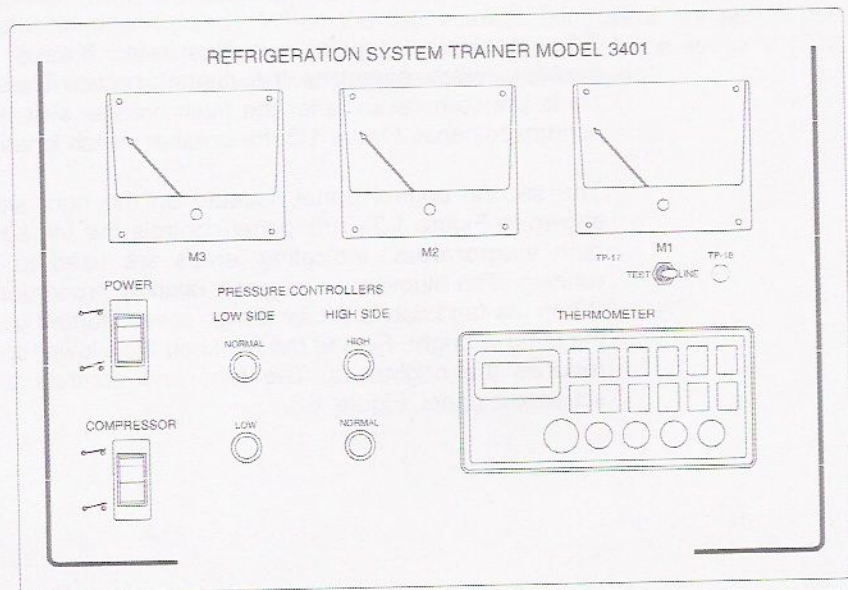
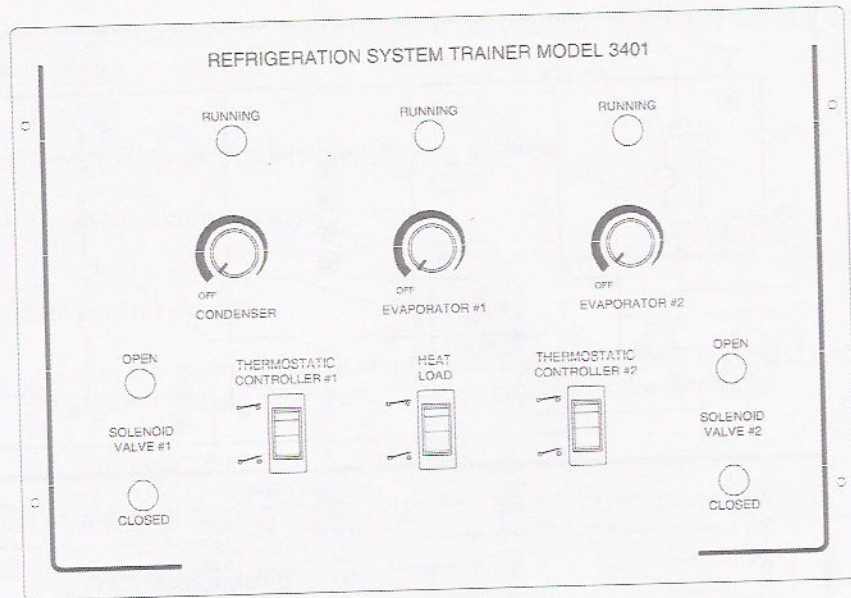
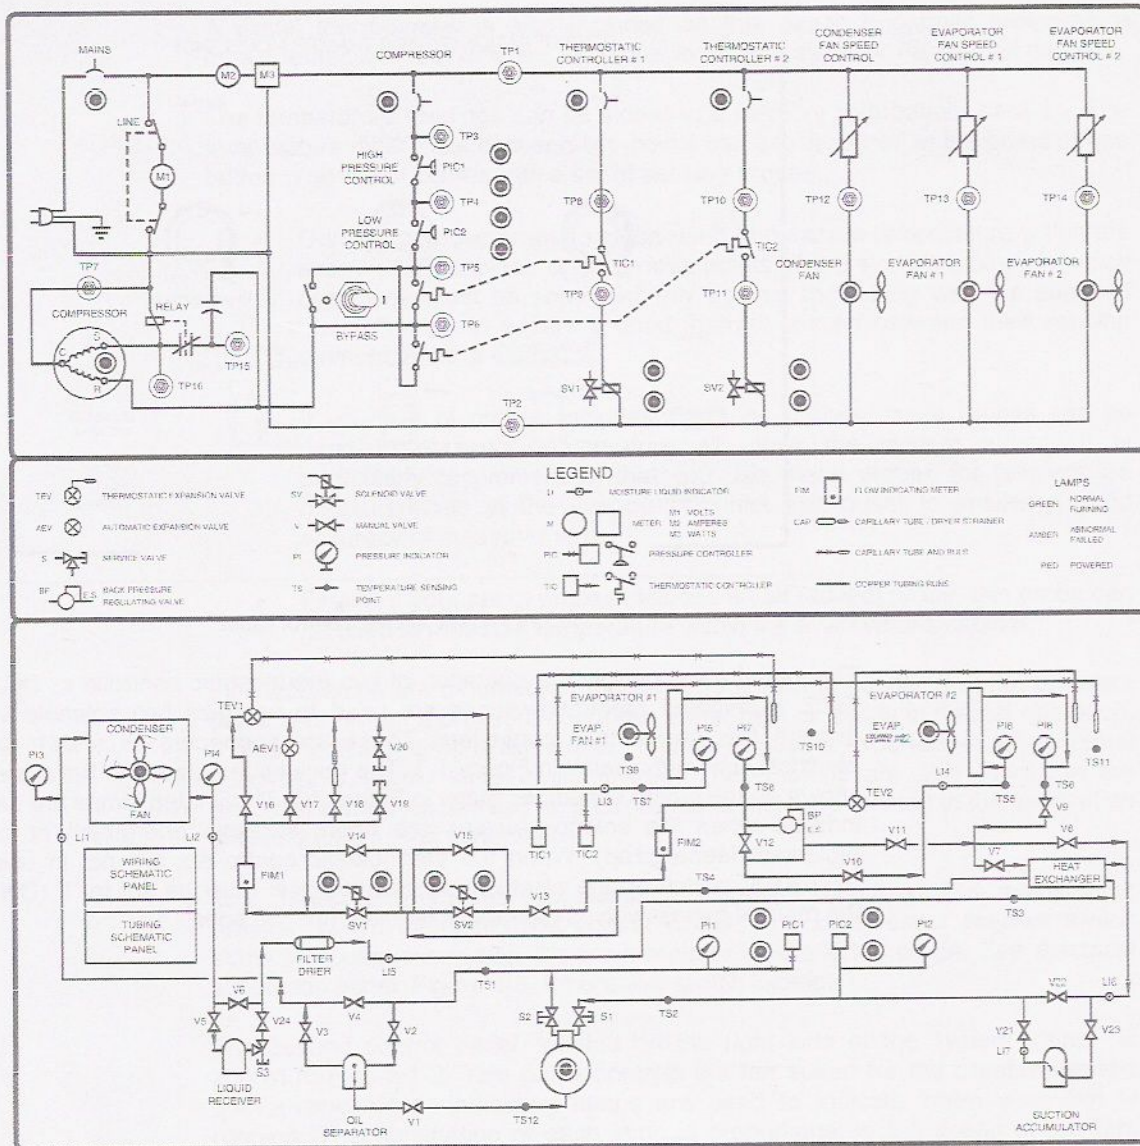

Figure 1-1. The main control panel.
Figure 1-2. The second control panel.
Figure 1-3. The schematic (electrical and tubing) panel.
The Refrigeration System Trainer is equipped with two control panels and a schematic panel. These panels are used to monitor and control the operations required for refrigeration training. The main control panel, mounted on the left side of the system trainer, is shown in Figure 1-1. This panel contains three meters: an ac voltmeter (M1); an ac ammeter (M2); and a wattmeter (M3). These meters are used to monitor the electrical system of the trainer. The meters are wired into the system as shown on the schematic panel, Figure 1-3.
This panel also includes two illuminated breaker switches. The mains input breaker switch energizes the control circuit. The compressor breaker switch starts the compressor after the main breaker switch is turned on. See electrical schematic panel, Figure 1-3, for breaker switch location.
The second control panel, located on the right side of the system trainer, is shown in Figure 1-2. This panel controls the fan speed for the **condenser** and both **evaporators**. Indicating lamps are used to indicate when each fan is running. The illumination of each lamp is proportional to the speed of the fan. When the fan knob is set for a high speed (turned counterclockwise near "OFF"), the lamp is bright. Setting the fan knob for a lower speed (knob turned clockwise) reduces the brightness. The fans and controls are shown on the electrical schematic panel, Figure 1-3.
This panel also controls the operation of two thermostatic controllers, TIC1 and TIC2. Illuminated breaker switches are used to energize two solenoid valves through the thermostatic controllers. These are connected as shown on the electrical schematic panel in Figure 1-3. The devices are placed in the system as shown on the tubing schematic panel in Figure 1-3. Illuminated lamps are used to indicate when the solenoid valves are open (solenoid energized) or closed (solenoid deenergized). When the thermostatic controllers are not in use, the "BYPASS" switch on the electrical schematic panel must be set to "I" (ON) and the manual bypass valves over the solenoids must be open.
The schematic panel, as shown in Figure 1-3, is located on the left hand side of the system trainer, directly above the main control panel. This panel shows the electrical and tubing schematics of the system trainer.
10. With the probe, measure and record the temperatures at TS1 and TS2. The temperature test point locations are shown on the schematic panel (tubing section) in Figure 1-3.